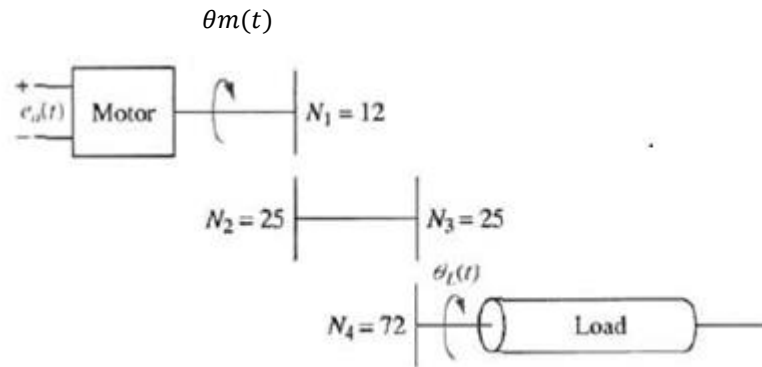

Figure 1
- 1A.** A dc motor develops 55 N-m of torque at a speed of 600 rad/s when 12 volts are applied. It stalls out this voltage with 100 N-m of torque. If the inertia and damping of the armature are 7 kg-m and 3 N-m-s/rad, respectively, find the transfer function, $G(s) = \theta_l(s)/E_a(s)$, of this motor if it drives an inertia load of 105 kg-m² through a gear train as shown in figure 1 **6**